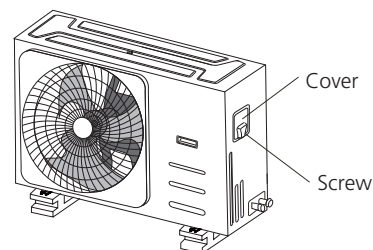

Fig. 7.1
2. Remove the electric cover of the outdoor unit. If there is no cover on the outdoor unit, disassemble the bolts from the maintenance board and remove the protection board. (See Fig. 7.1)